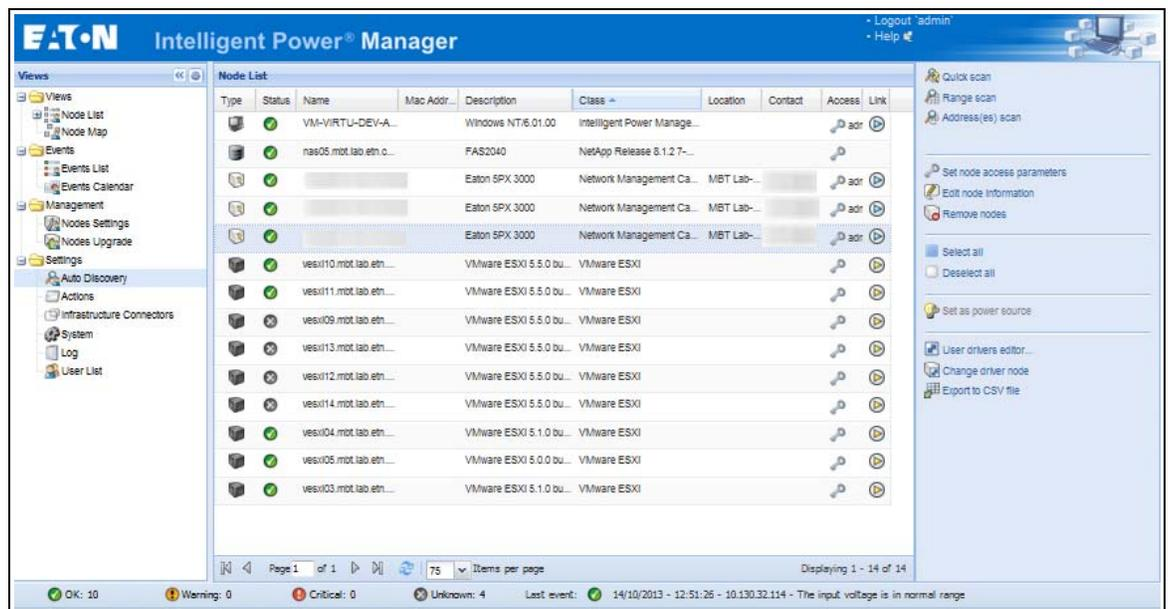

Figure 8. Node List Page
2. From the right panel, select a discovery method (see Figure 8):
2. Click the Edit scan settings button on the right-side page. The Edit scan settings dialog box displays (see Figure 8).